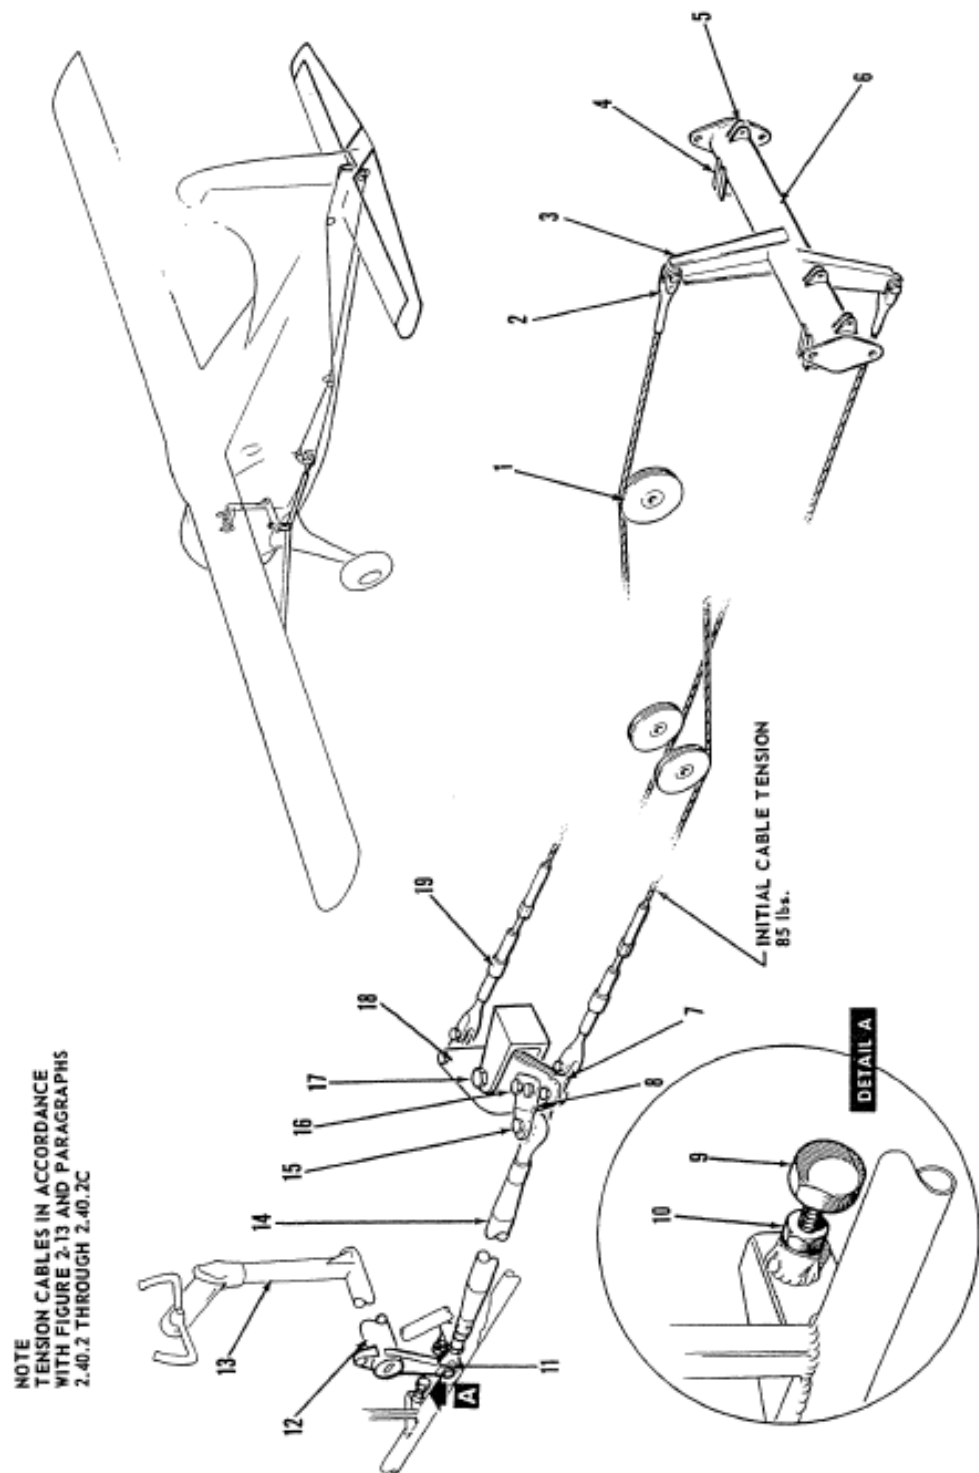
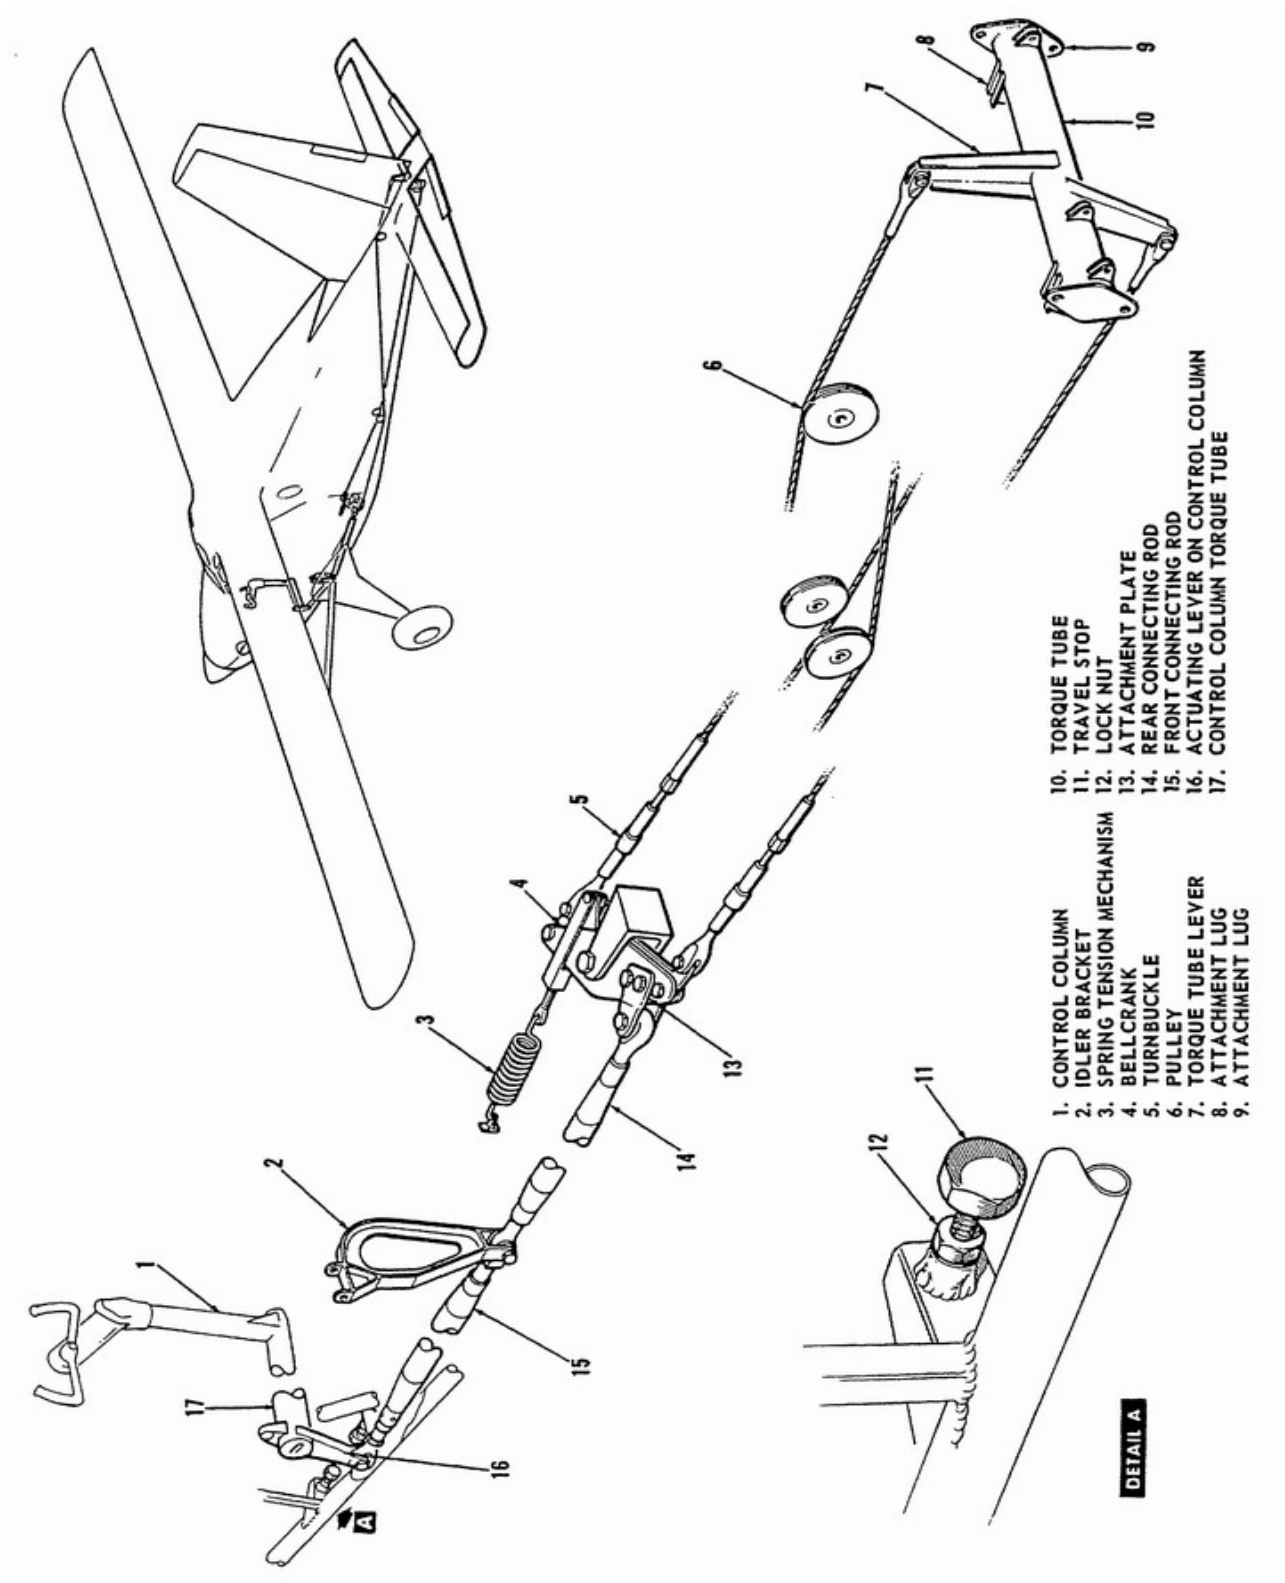

FIGURE 1
FIGURE 3
- (a) Gain access to the elevator actuating lever (11, Figure 1) on the control column, the elevator control rod assembly (14, Figure 1) and bell crank (18, Figure 1) as follows:
- (b) Remove the elevator control rod assembly (14, Figure 1) from the attaching plate (8, Figure 1) and the elevator actuating lever (11, Figure 1) on the control column.
- (f) Remove the elevator control rod assemblies (14 and 15, Figure 3) in accordance with (IAW) Aircraft Maintenance Manual, PSM 1-2T-2, Supplement 6, and Section 6.18.1.
1. With a strong light and a 10x magnifying glass, inspect the exterior of the elevator control rod C2CF619A (14, Figure 1) for MK I and MK II and the elevator control rods C2CF619A and CT2CF1021-1 (14 & 15, Figure 3) for MK III as follows:
2. Visually inspect the elevator actuating lever and the control column torque tube (Item 11 & 12 in Figure 1 or Item 16 & 17 in Figure 3) in situ as follows:
3. Visually inspect the idle bracket and spring (2 & 3, Figure 3), bellcrank, cable turnbuckle and attachment plate (8, 18 & 19 in Figure 1,; 4, 5 & 13 in Figure 3) as follows:
- (a) Install the elevator control rod assembly (14, Figure 1) IAW PSM 1-2-2, Part 2, Section 2.43.
- (b) Touchup surface finish as required (on bare metal surface, if any). Apply corrosion preventive compound LPS3 (or equivalent) to the inside and outside of the fork area on the elevator actuating lever (11, Figure 1), and to the control rod (14, Figure 1) exterior surface to cover approximately 12" from the rod forward end.
- (a) Install the elevator control rod assemblies (14 and 15, Figure 3) IAW with Aircraft Supplementary Maintenance Manual, PSM 1-2T-2, Supplement 6, Section 6.18.2.
- (b) Touchup surface finish as required (on bare metal surface, if any). Apply corrosion preventive compound LPS3 (or equivalent) to the inside and outside of the fork area on the elevator actuating lever (16, Figure 3), and to the entire exterior surface of the control rod (15, Figure 3), as well as 12" (from the rod forward end) of the exterior surface of the control rod (14, Figure 3).